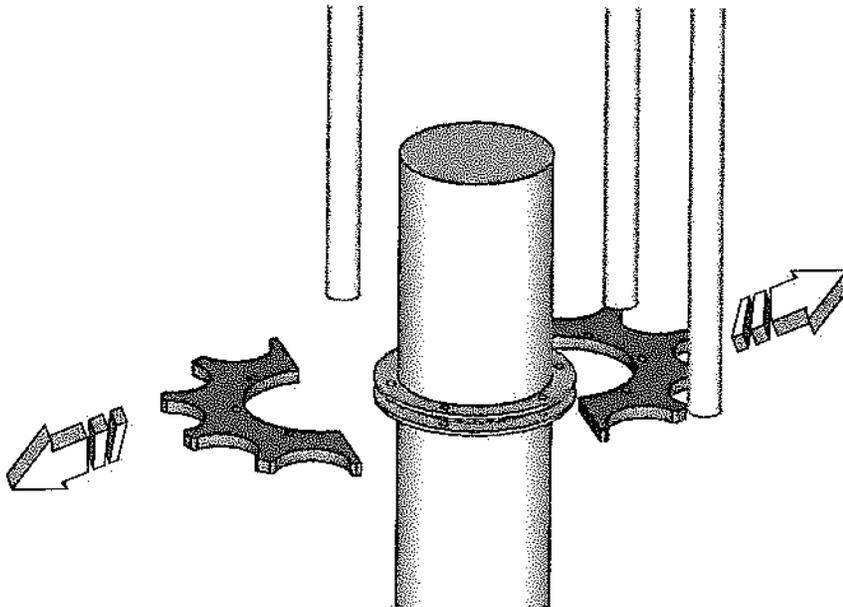

fig.33
- Extract the half-starwheels (fig.33).